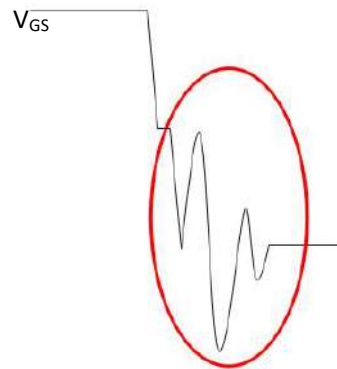

Figure 10-10 Grid ringing
- 1) Grid signal rings, causing MOS damage (as shown in Figure 10-10);